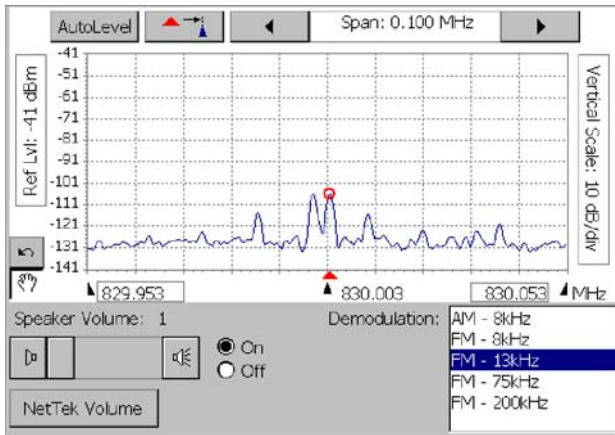

Figure 3-23: Example of an Audio Demod display
4. Tap the trace at the peak of the suspected interfering signal to set the measurement frequency. See Figure 3-23.